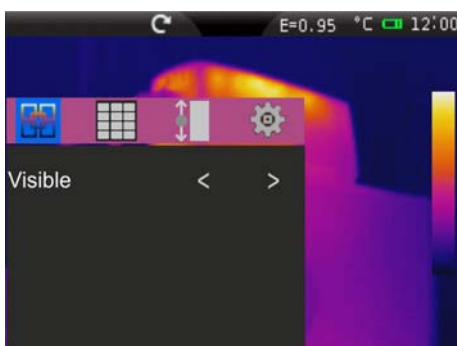

Fig. 42: Setting and displaying the visible image
- **Visible** → display of visible image only (see Fig. 42)